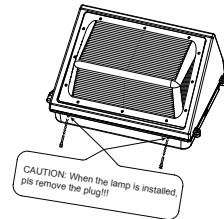

Figure 6
6. Caution: When the product is installed, pls remove the plug at the drain hole. (Figure 6)